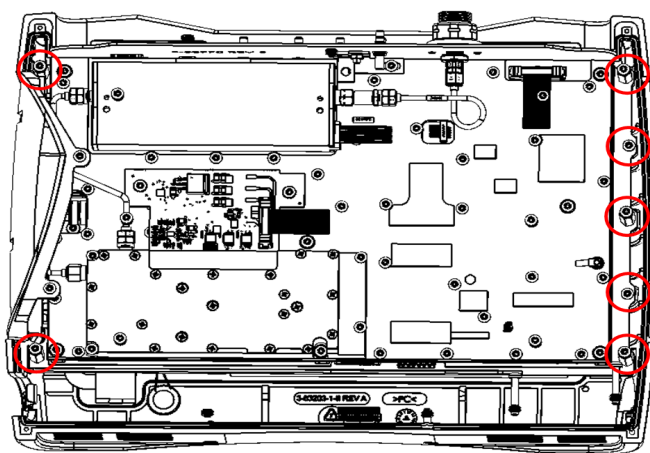

**Figure 5-5.** Main and VSA PCB Assembly
6. There are two screws and five stand-offs that will need to be removed. Use a Torx T10 screwdriver to remove the two screws and a 1/4 inch nut driver to remove the 5 stand-offs as shown in Figure 5-5.